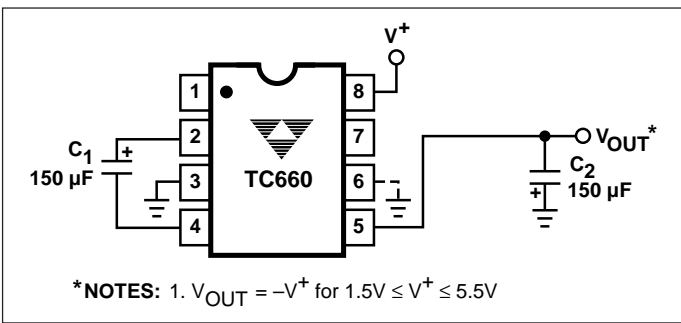
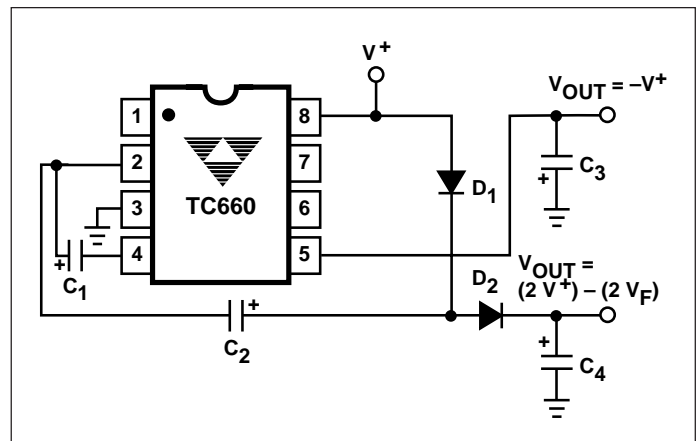

Figure 3. Simple Negative Converter
Figure 10. Combined Negative Converter and Positive Multiplier
The output characteristics of the circuit in Figure 3 are those of a nearly ideal voltage source in series with 6.5Ω . Thus, for a load current of -100mA and a supply voltage of $+5\text{V}$, the output voltage would be -4.35V .
Figure 3 shows typical connections to provide a negative supply where a positive supply is available. A similar scheme may be employed for supply voltages anywhere in the operating range of $+1.5\text{V}$ to $+5.5\text{V}$, keeping in mind that pin 6 (LV) is tied to the supply negative (GND) only for supply voltages below 3.0V .
Figure 10 combines the functions shown in Figures 3 and 8 to provide negative voltage conversion and positive voltage multiplication simultaneously. In this instance, capacitors C_1 and C_3 perform the pump and reservoir functions, respectively, for the generation of the negative voltage, while capacitors C_2 and C_4 are pump and reservoir, respectively, for the multiplied positive voltage. There is a penalty in this configuration in that the source impedances of the generated supplies will be somewhat higher due to the finite impedance of the common charge pump driver at pin 2 of the device.